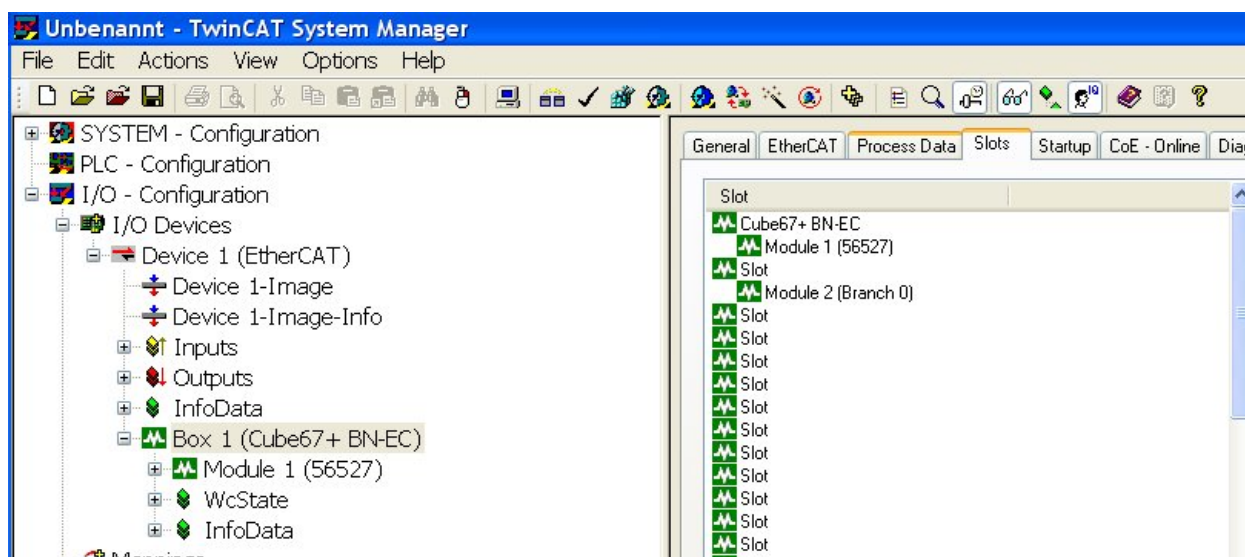

Fig. 15 Configuration after inserting the Cube67+ BN-EC
- ➔ In the right window, select the required expansion modules (see Fig. 15).